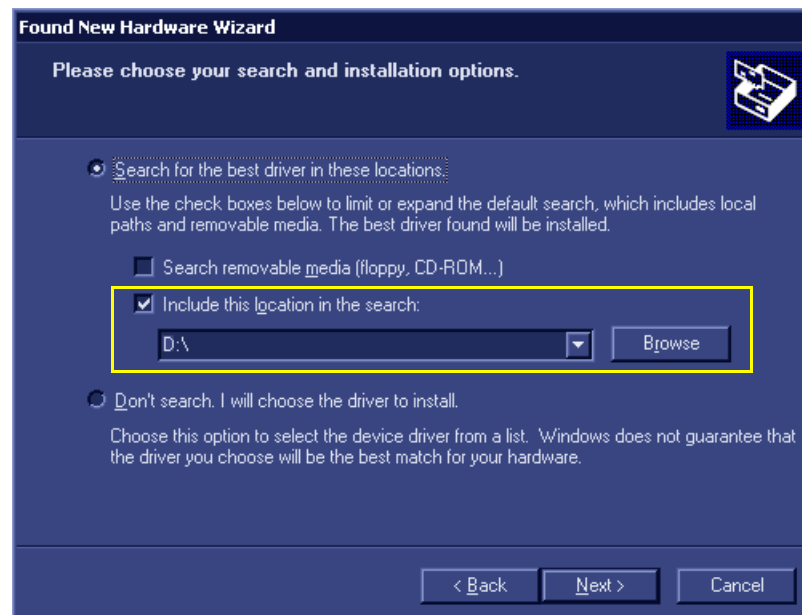
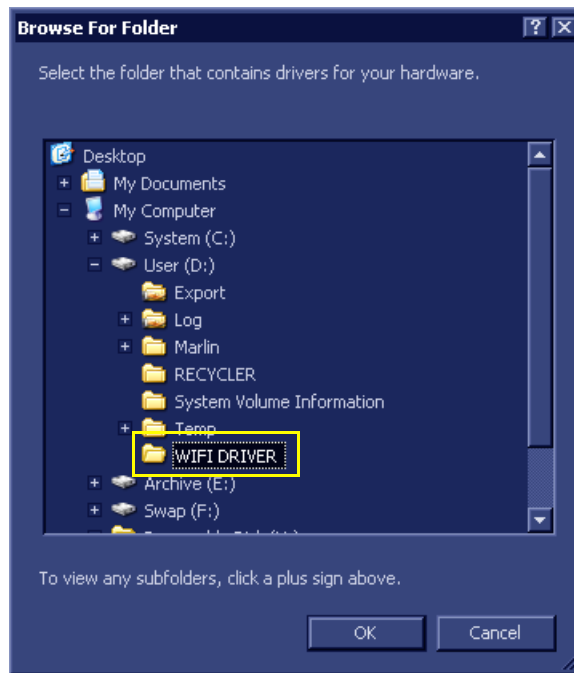

Figure 3-91 Include this Location in Search
Figure 3-92 WIFI DRIVER Folder
- 10.) Select **Include this location in search** (Figure 3-91) and browse to "D:\WIFI DRIVER\" (Figure 3-92).
The following screen opens (Figure 3-92).